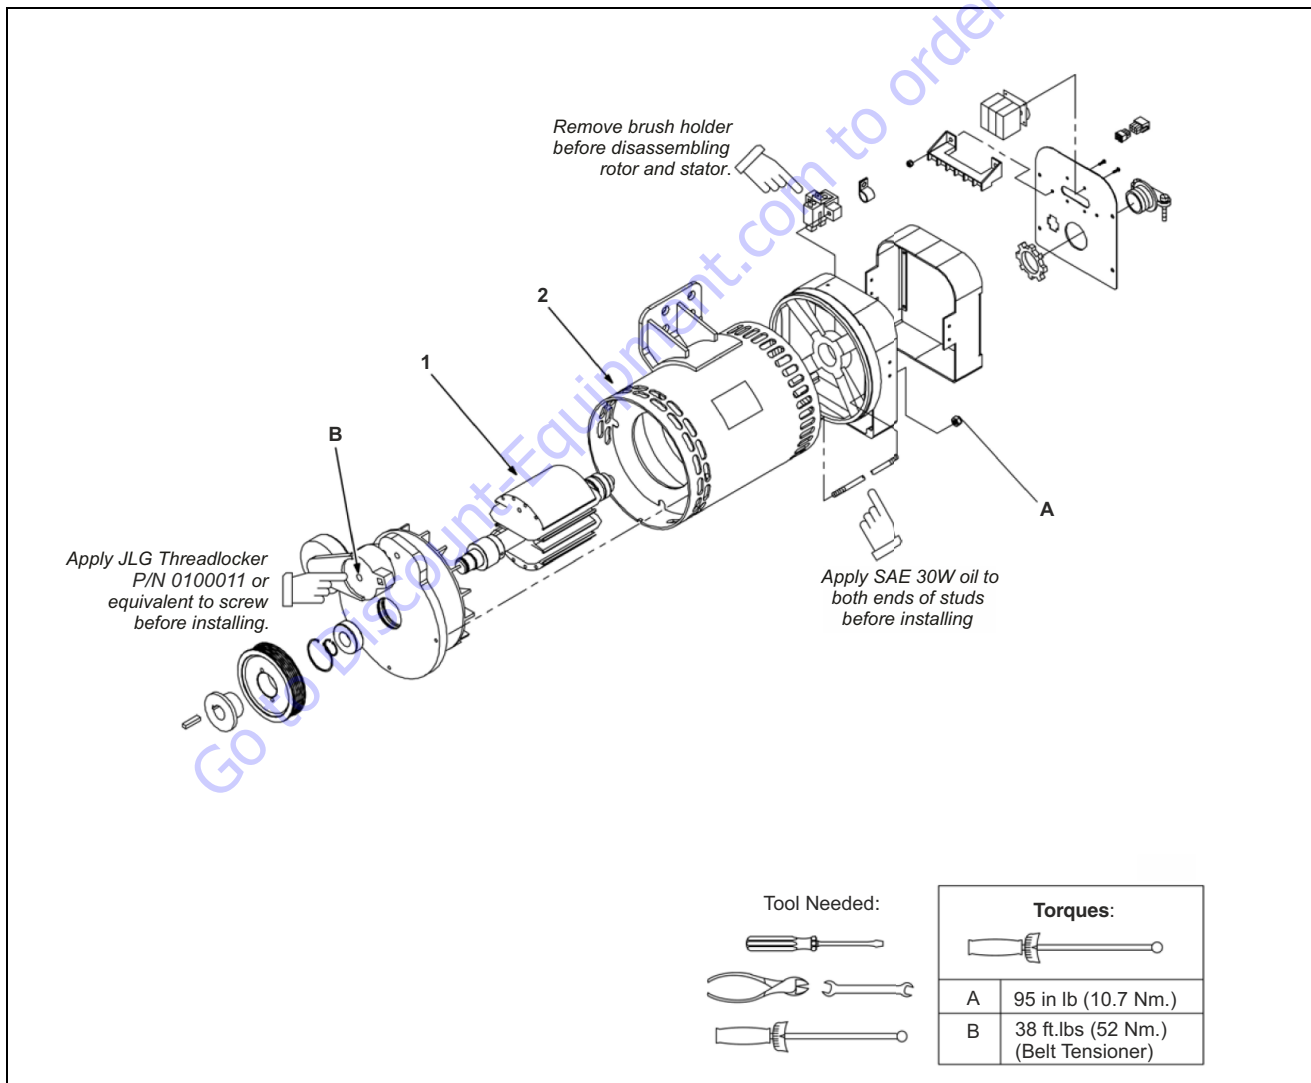

Figure 3-68. Generator Disassembly and Assembly
3. Disassemble generator parts shown in Figure 3-68.